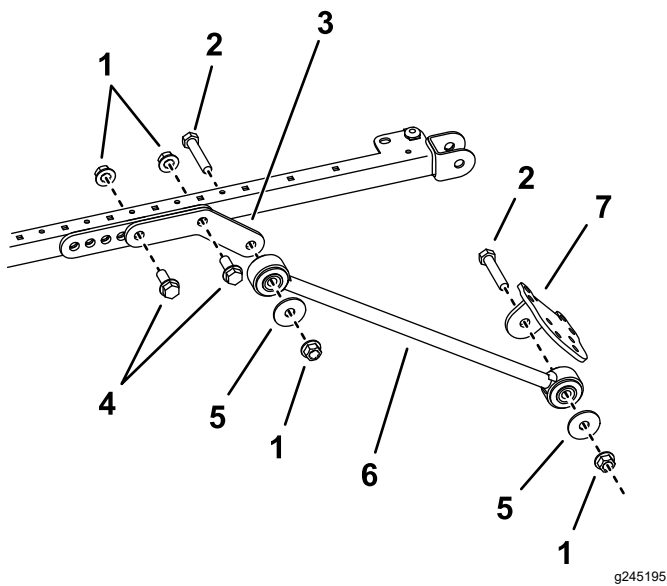

Figure 37
- On each side of the sunshade frame, loosely mount an extension link to the rear and center holes of the mount bracket with 2 bolts (1/2 x 1-1/2 inches), and 2 flange nuts (1/2 inch) as shown in Figure 37.
- Attach a brace to the outside of each extension link with a bolt (1/2 x 2-1/2 inches), washer (1/2 inch), and flange nut (1/2 inch) as shown in Figure 37.
11. Loosely install a brace bracket to each brace with a bolt (1/2 x 2-1/2 inches), washer (1/2 inch), and flange nut (1/2 inch) as shown in Figure 37.